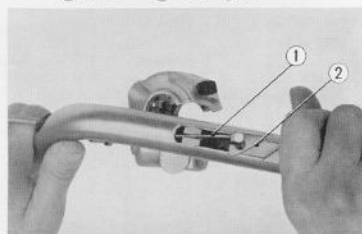

Fig. 4.9 Removing throttle cable
① Lock nut ② Cable adjuster
8. Remove the two 5 mm screws to separate the right handle grip bracket, turn signal switch assembly, throttle grip pipe and then disconnect the throttle cable ① from the throttle cable hinge ②. (Fig. 4.9)